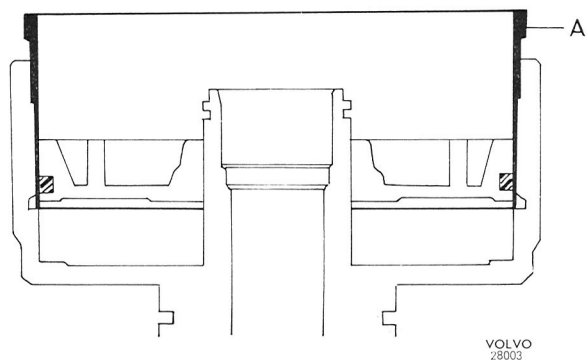

Fig. 4-116. Installation of piston for rear clutch
11. Install the seal rings for the piston. Use installation ring 5000 and install the piston in the clutch case, see Fig. 4-116.